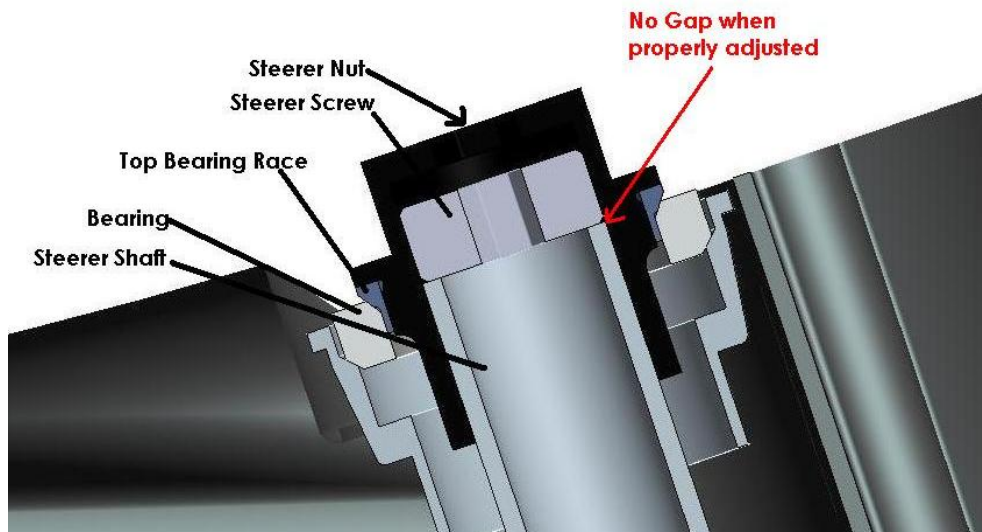

Fig. 7
- Tighten this to 12Nm with a torque wrench. See Fig. 7